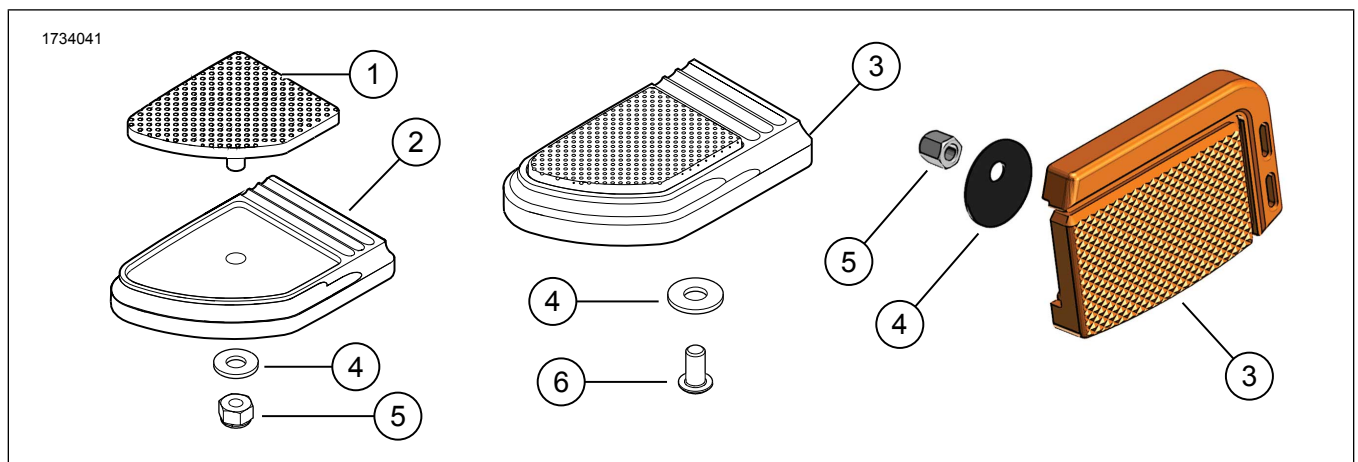

Figure 1. Kit Contents: Brake Pedal Pad Kit
1. See Figure 1. Align **new** brake pedal pad (1) with recess in trim cover (2).
3. Install washer (4) onto threaded stud.
4. Install 1/4-20 hex locknut (5) onto threaded stud. Tighten. Torque: 10.9 N·m (8 ft-lbs)
1. See Figure 1. Align **new** brake pedal assembly (3) with vehicle foot brake lever.
2. Apply threadlocker to screw (6).